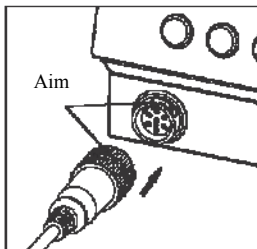

Figure 2
B. Aim the salient point of the plug of the soldering handle with the indent point of the main body socket, then insert and tighten. See Figure 2.